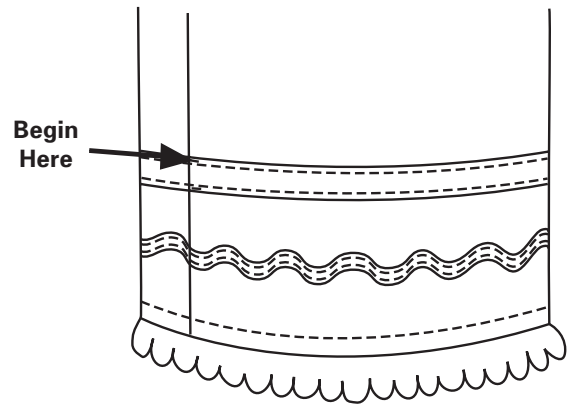

Fig. 1-7
9. To embellish each leg with trim, begin and end at the inseam and overlap the ends, turning under the top end. Pin or use basting tape to hold the trim in place. Sew the trim in the center if it is narrow or along both edges if it is wide. (Fig. 1-7) To add lace to the hem, pin the top of the lace inside the leg and stitch it in place.